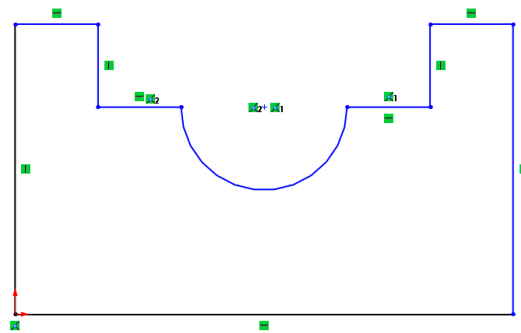

Figure 2-63 Final sketch for Tutorial 2
- Draw the sketch using the **Line** tool, refer to Figure 2-63.
18. Press the F key to modify the drawing display area. The final sketch for Tutorial 2 with the grid display and the **Shaded Sketch Contours** settings turned off is shown in Figure 2-63.